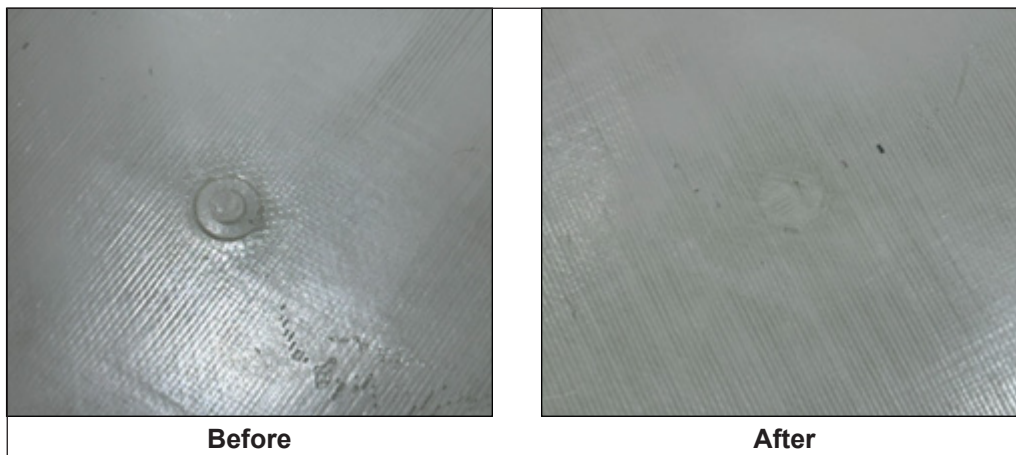

Figure 2 — Repair Before and After
7. Use a die grinder or sander to remove the resin burr until the platform is completely flat. Refer to Figure 2 for an example of a completed repair.